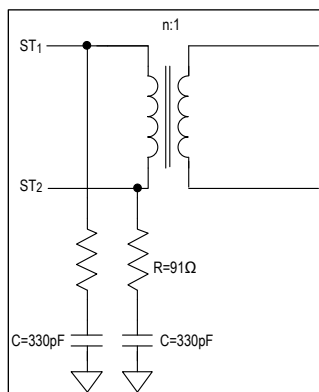

Figure 4. Output Snubber
For  $V_{DD}$  greater than 27V, use a simple resistor-capacitor (RC) snubber circuit on ST1 and ST2 to ensure that the peak voltage is less than 40V during switching (Figure 4). Recommended values for the snubber are  $R = 91\Omega$  and  $C = 330pF$ .